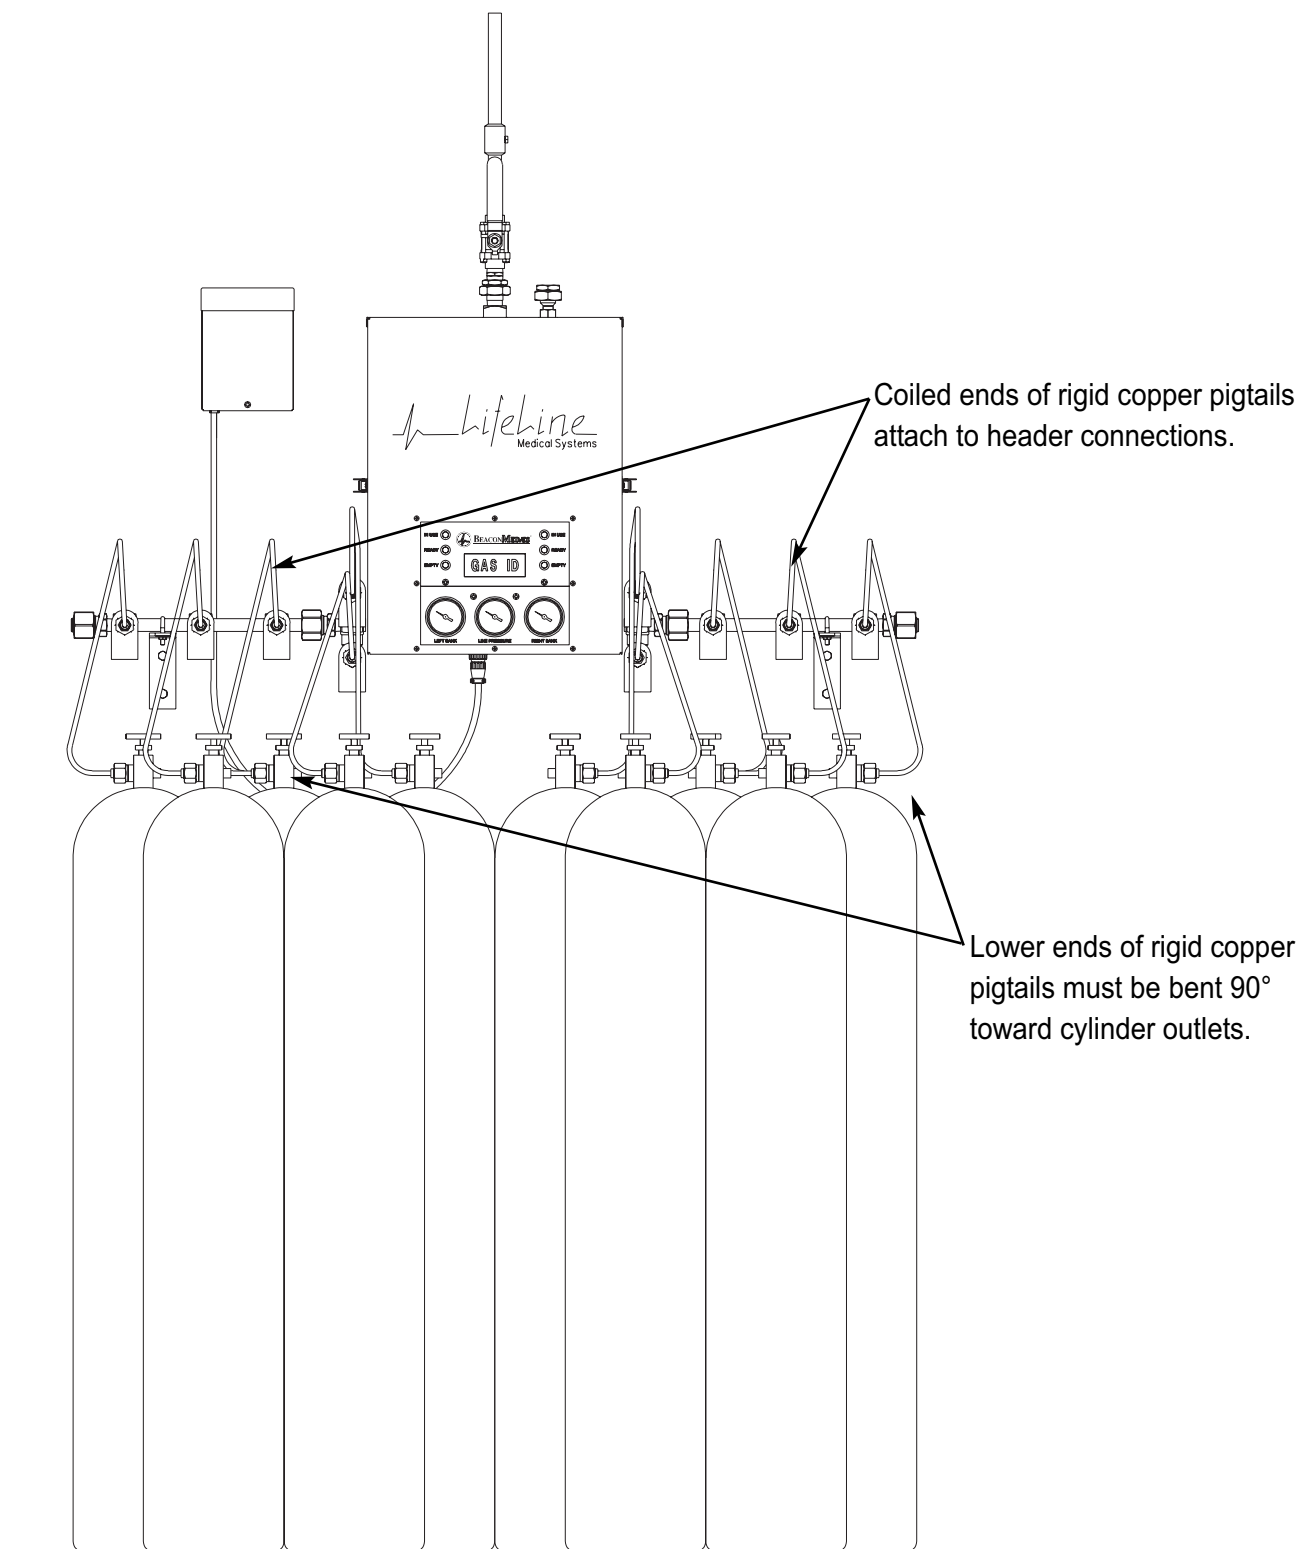

Figure 12
Figure 12 illustrates a typical 5 x 5 oxygen or helium manifold utilizing pre-formed rigid copper pigtails.
Both ends of flexible pigtails are the same. Either end may be connected to manifold header. Rigid copper pigtails on oxygen and helium manifolds are pre-formed and must be connected as shown in Figure 12.
5. Close two internal isolation valves on inlets of line regulators. (Refer to Figure 12 for component location).